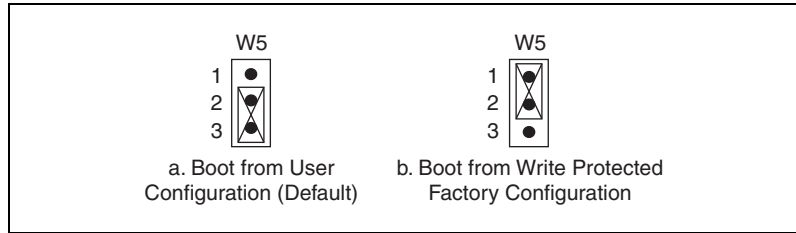

Figure E-1. EEPROM Configuration
2. Change jumper W5 to the position shown in Figure E-1 to restore the factory configuration. Refer to Figure B-1, *VXI-MXI-Express Factory Default Jumper Settings*, of Appendix B, *Advanced Hardware Configuration Settings*, for jumper locations.
Figure E-1 shows the configuration settings for EEPROM operation. Use jumper W5 to control whether the NI VXI-8360T/LT controller boots off the factory-configured EEPROM settings or the user-modified settings.
10. Change jumper W5 back to the default position, as shown in Figure E-1.